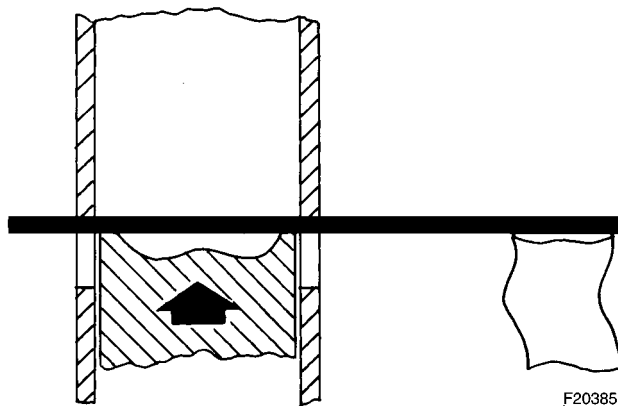

Figure 7-19. Piston Travel Limited By “Stop-Bar”
4. Manually bar the engine slowly in the normal direction of rotation until piston travel is stopped by the bar against the upper surfaces of the cylinder ports, Figure 7-19.